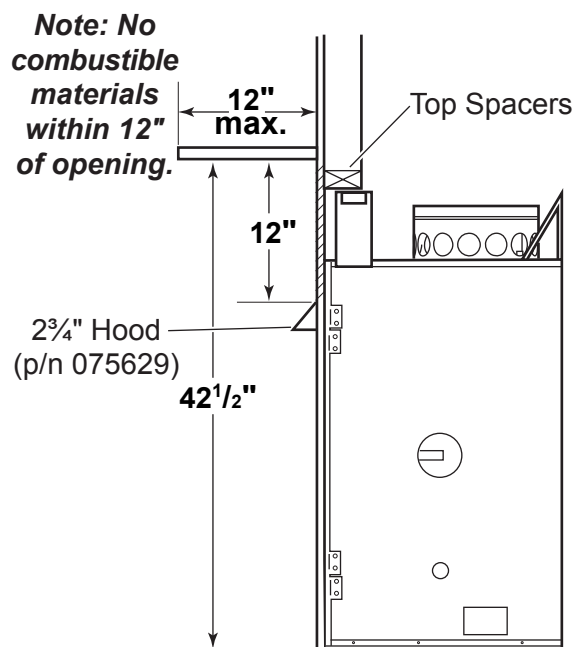

Figure 38 - Locating Mantel 12" from Opening when Using Hood
1. Install hood on fireplace with mantels 12" from the opening of fireplace. Mantel may be no more than 12" deep. Combustible framing members may be placed across top spacers. See Figure 38.